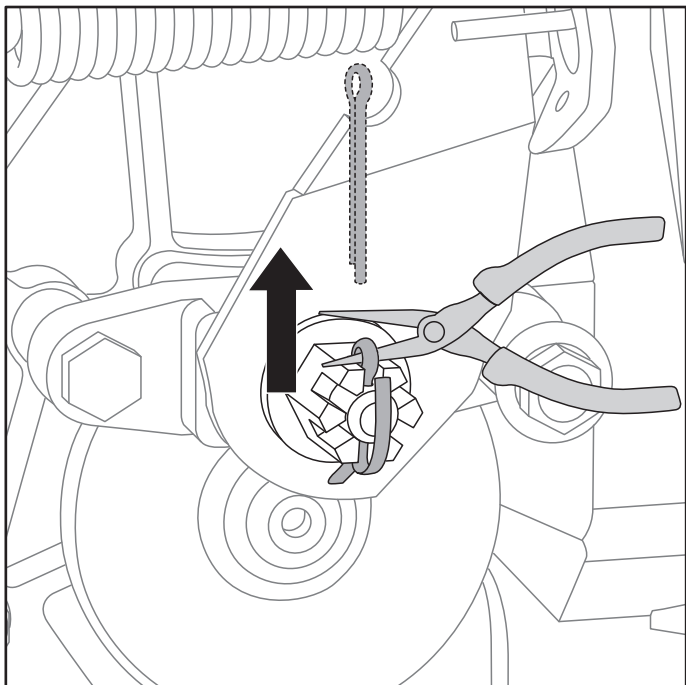

Fig. 35A
2. Straighten the end of the pin with pliers and remove the pin from the nut (b).(Fig.35A)